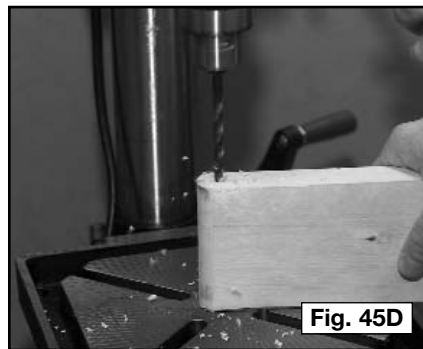

Fig. 45D
- Step 2** - Use a drill press to drill a hole in the center of each board for the hinge pin (Fig. 45D).